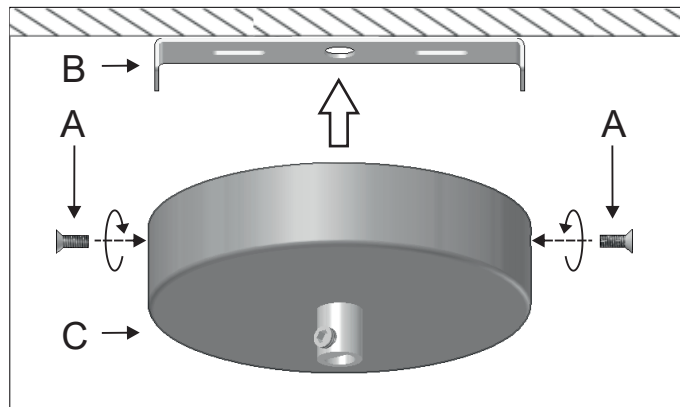

Figure 5
5 - Place the canopy (C) back and fasten the side screws (A) previously removed. Figure 5.